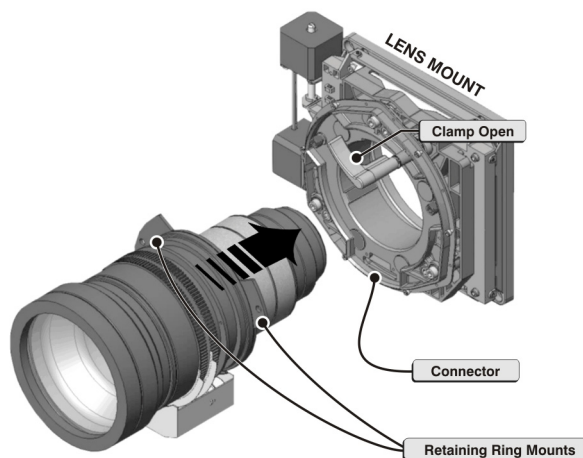

Figure 7-7 Install Lens
8. Align the mounts on the lens connector with the lens mount. Insert the lens until it connects with the magnets on the mount. Once the lens makes contact with the magnetic plates it will be seated correctly and the connector for motorized zoom and focus will be properly connected (Figure 7-7).